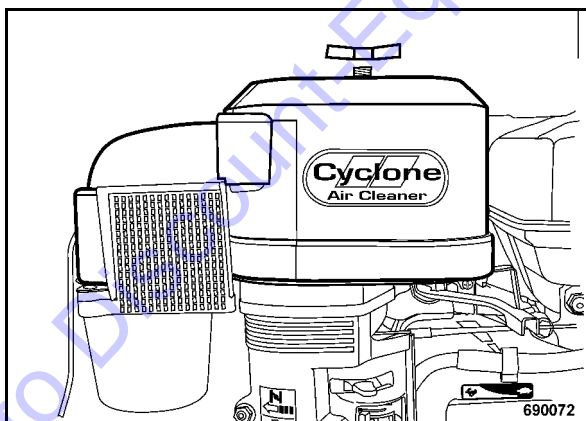

Fig. 44
- Unscrew the wing nut and remove the air filter cover (Fig. 44).